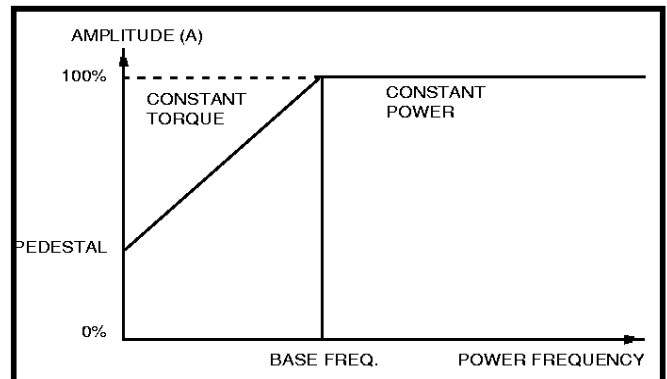

Fig.7 Linear characteristic
- The SA808 can calculate the power instantaneous amplitude as a linear function of the power frequency using user specified parametrics (see Fig.7).
Fig.7 shows the linear characteristic implemented in the SA808.